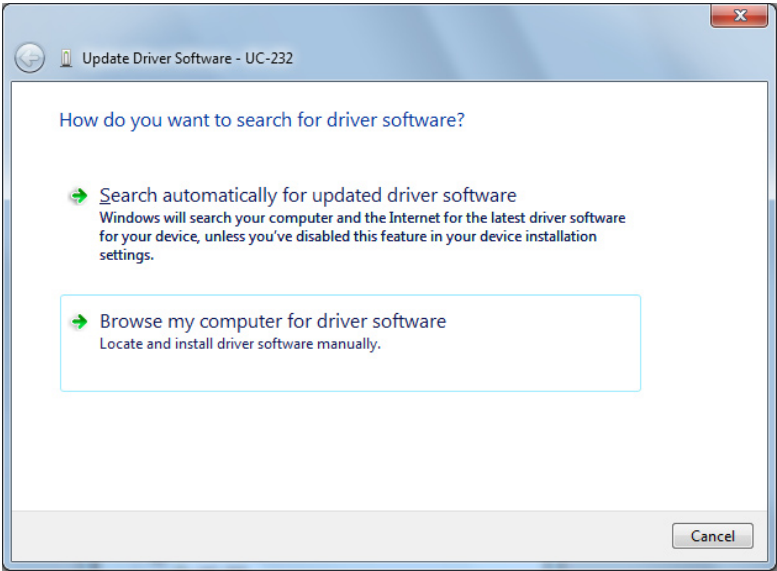

Fig. 12. Update Driver Software Procedure.
- 4) This then displays the option for an automatic search or a manual search. Select the second option to browse manually (see Figure 12).